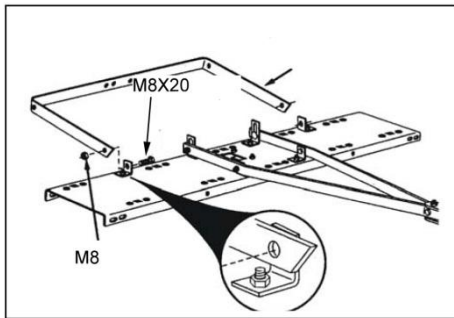

Figure 5
7. Fit the wheel axles on the outside of the two small angle brackets with two M8x20 bolts and M8 lock nuts (fig. 5). The ends of the wheel axles must be positioned as illustrated. Tighten the nuts and bolts fully and then release them a little.